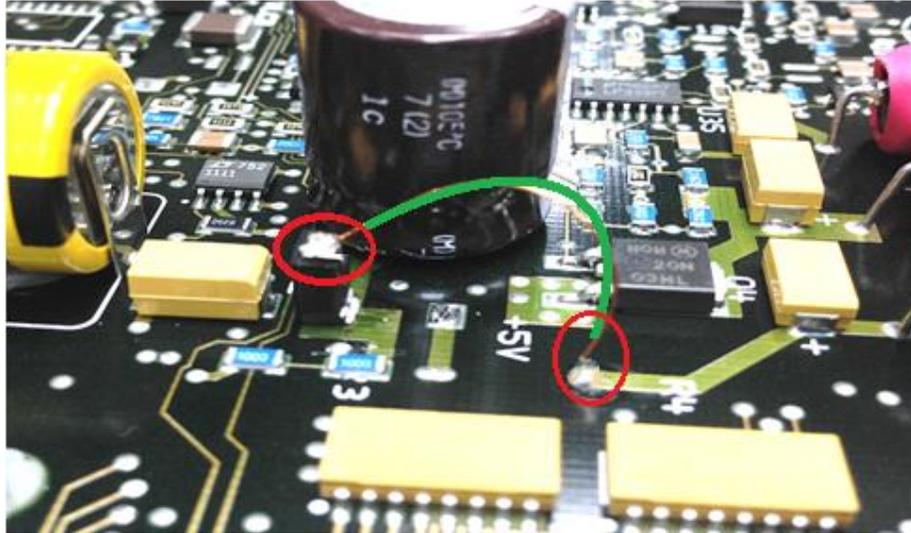

Figure 2
- 5) Using 8150-0452 wire trim the insulator for both end. Solder one end to the resistor pin lead and the other end of wire to circuit trace, refer below figure 2